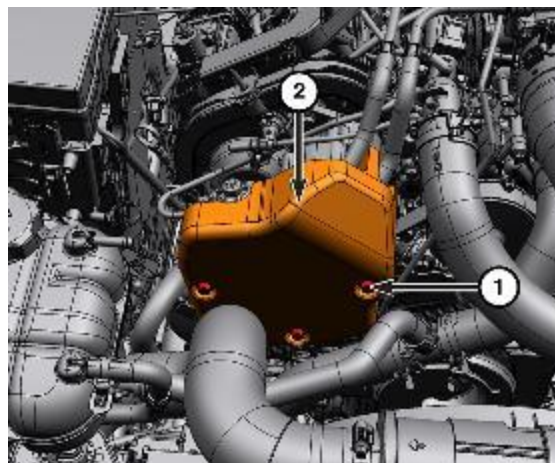

Figure 13 – Cover Screws
7. Remove the screws (1) that secure the cover (2) for the high-pressure fuel pump (Figure 13).